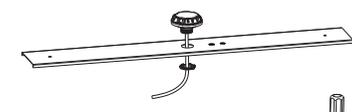
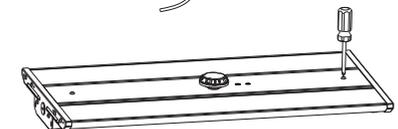

Figure 13
Figure 14
- Step2. Knock off the knockout on the cover, install the sensor on the cover (Figure 13), and connect the wiring according to the wiring instructions. Step3. Assemble the cover back onto the fixture (Figure 14)